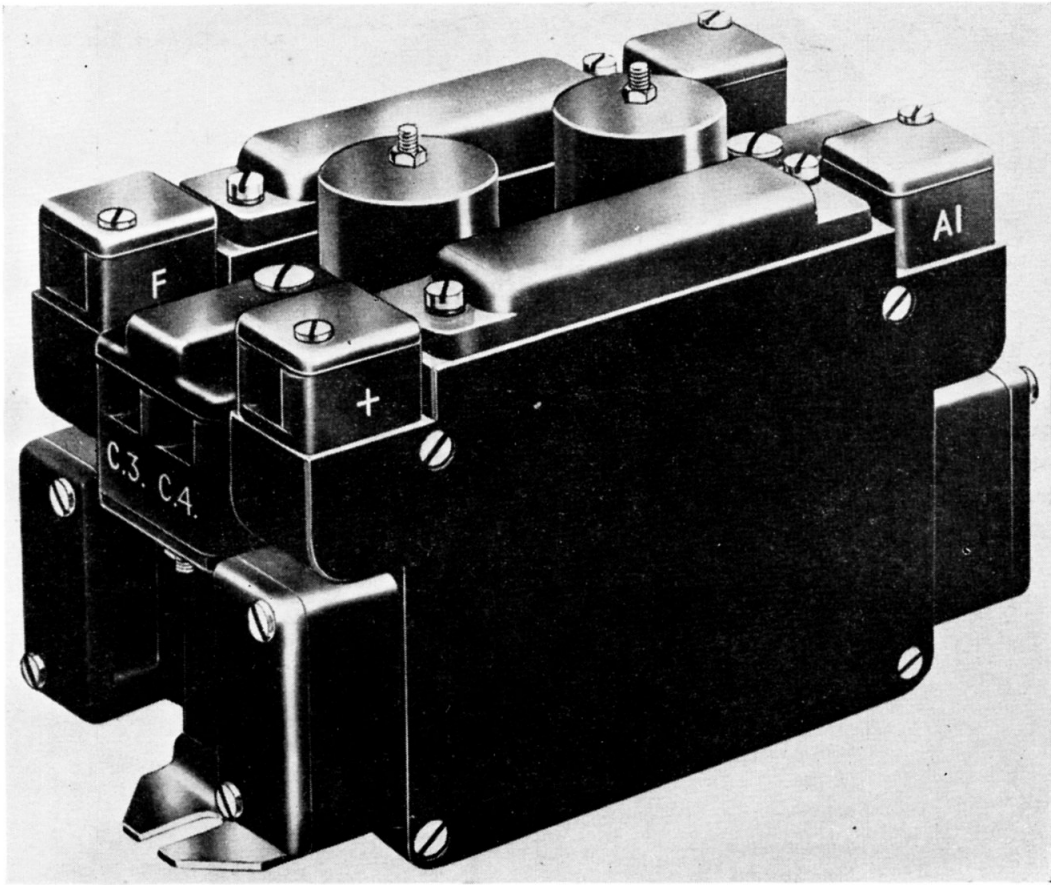
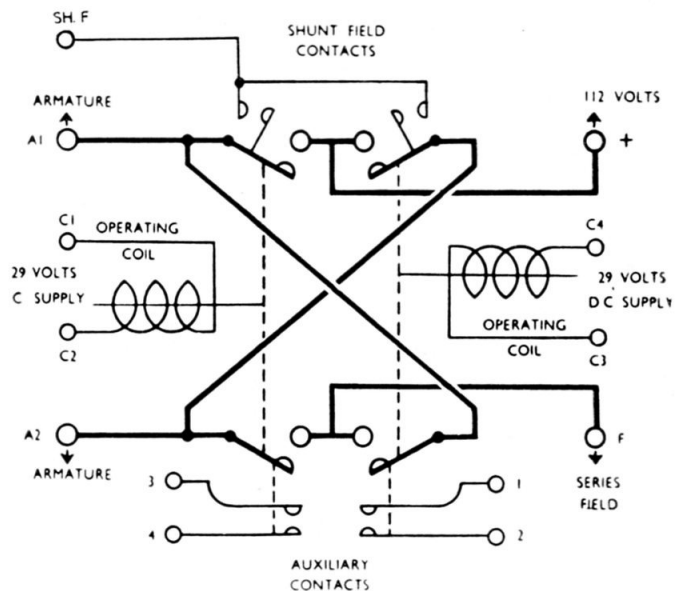

Fig. 1. Type 5A, No. 1, magnetic switch
Fig. 2. Diagram of connections
2. The Type 5A switch (*fig. 1*) is identical to that described in A.P.4343, Vol. 1, Sect. 11, Chap. 14. Its auxiliary contacts (terminals 1, 2, 3 and 4) are normally open as indicated in *fig. 2*.